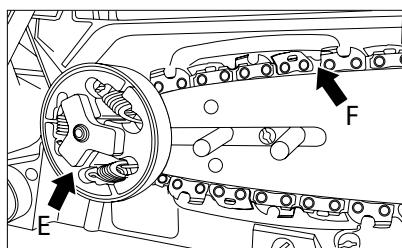

Fig. 8
6. Run the chain behind the drive chain wheel (E). Check if the chain links are well positioned between the teeth of the chain wheel (Fig. 8).
7. Insert the links into the bar groove (F) on the periphery (Fig. 8).